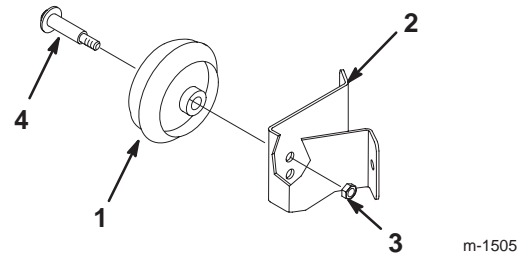

Figure 7
1. Remove the wheel mounting bolt and mount it into the desired hole (Fig. 7).
2. Use the top hole for the lowest cutting height and the bottom hole for higher cutting heights (Fig. 7).